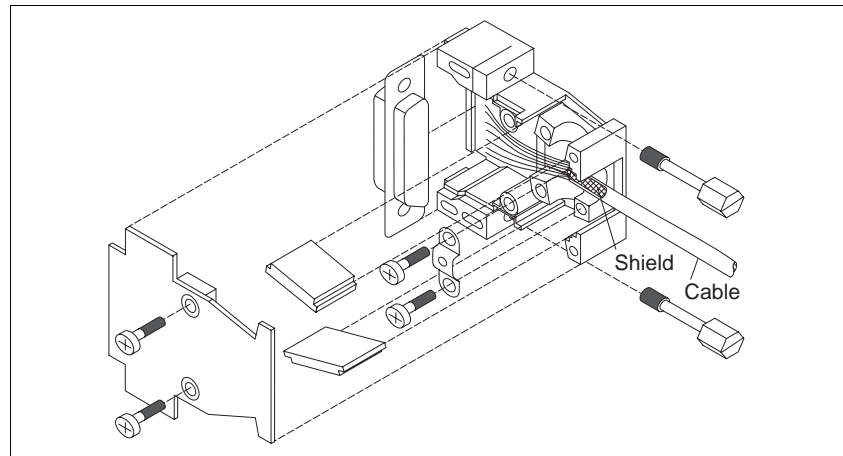

Fig. 2-19 Interface connector assembly
3. Insert two hexagon head bolts (fig. 2-19) into the connector shell.